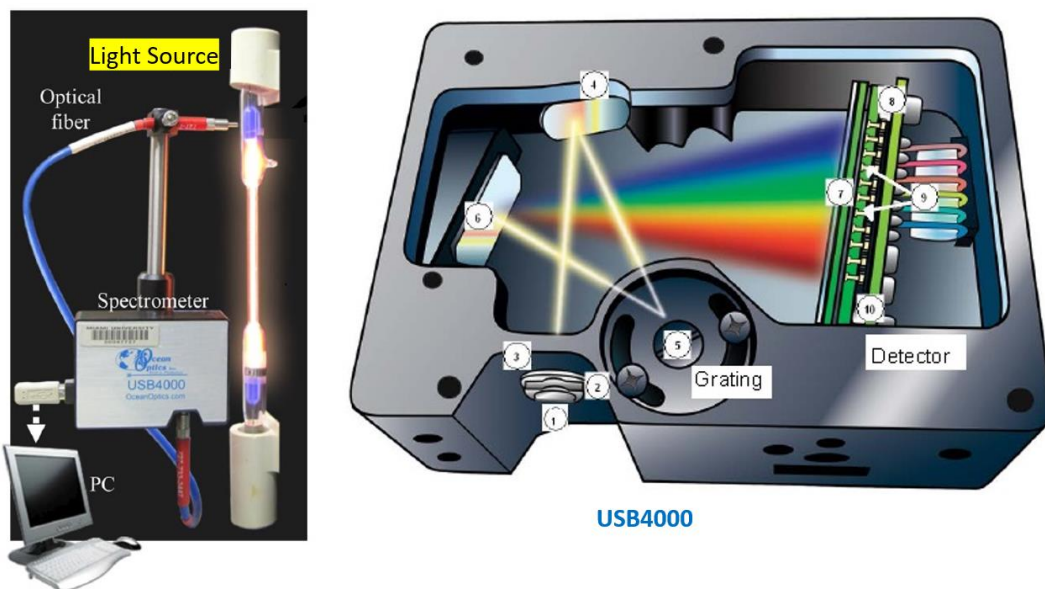

Figure 1. (Left) Experimental setup for laboratory spectroscopy using USB4000 spectrograph. (Right) Internal configuration of the USB4000 spectrograph.
Figure 1 shows a simple laboratory setup for spectroscopy. Photons from the light source (e.g., Neon lamp, blackbody source) are transferred to the entrance of the USB4000 spectrograph by optical fiber. Inside the spectrograph, the entered photons are dispersed by grating (component ⑤) before they are recorded in 1-dimensional detector (component ⑥). The detector has **1024 pixels**. (Note that there are other optical components inside the spectrograph that